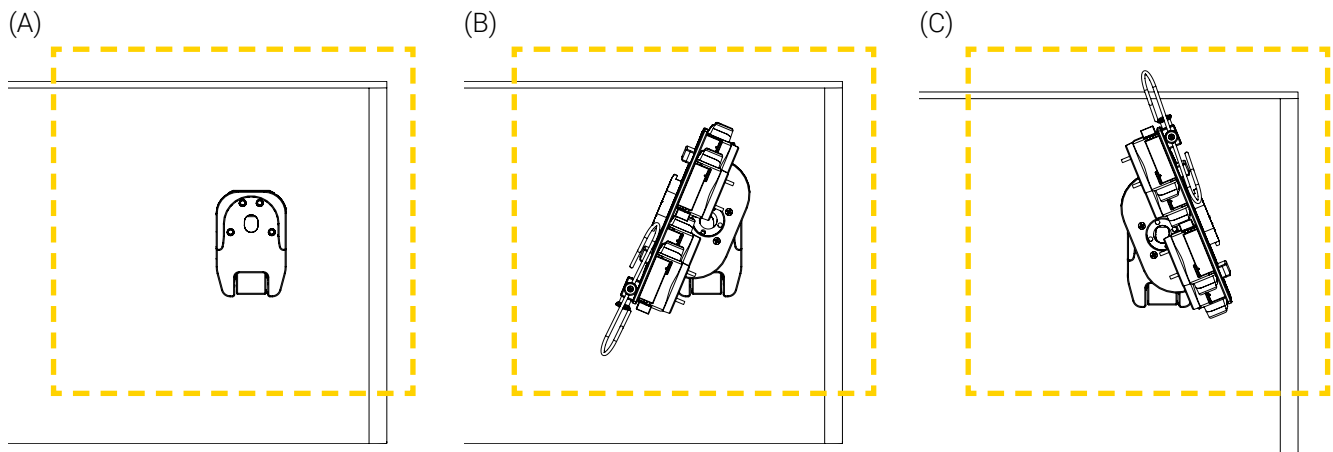

Figure 11: Perimeter clearance
2. Ensure the area of installation allows for a clearance around the Micro Base that is large enough to rotate the medical device up to 360° clockwise or counterclockwise (Figure 11). The clearance needed will depend on the size of the medical device and it's mounting bracket, where it is positioned and it's surroundings.